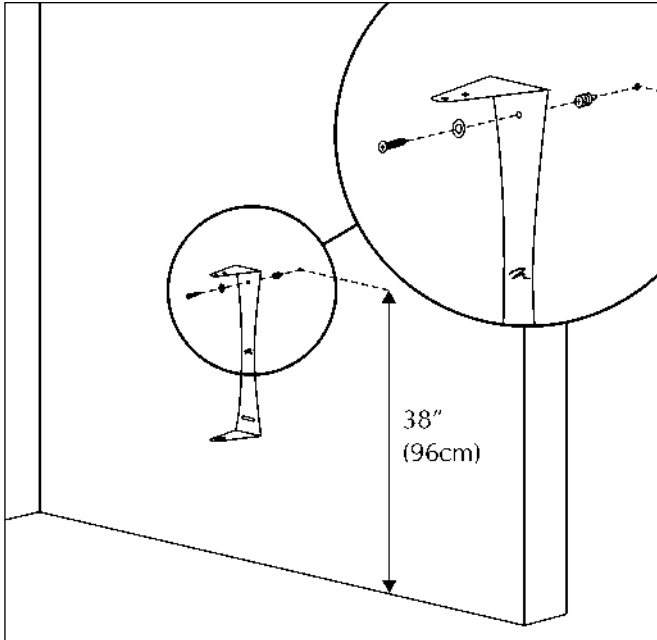

Figure 3.
- 1 Mark a center point on the wall where you want to mount the Script, 38 inches above the floor. This point is the height recommended by MartinLogan to mount the Script wall bracket and will be the location into which the wall brackets upper mounting wall anchor and screw are driven. You may choose to mount the Script higher or lower—your seated ear level should be approximately 4 inches higher than the point that you just marked. Make sure that the wall is clear of obstructions 6 inches to the left and to the right of the center point, and from the floor to 26 inches above the center point (see figure 3).
- 2 Use a hammer to tap a nylon wall anchor through the center point and then drive the anchor all the way into the wall by using a #2 Phillips bit and an electric drill (see figure 3).
- 3 Mount the wall bracket to the wall by placing a #12 metal washer on a screws and driving it through the hole at the top-back of the wall bracket (the hole immediately above the MartinLogan zig cutout) and into the center point-mounting anchor. Do not tighten (see figure 3).